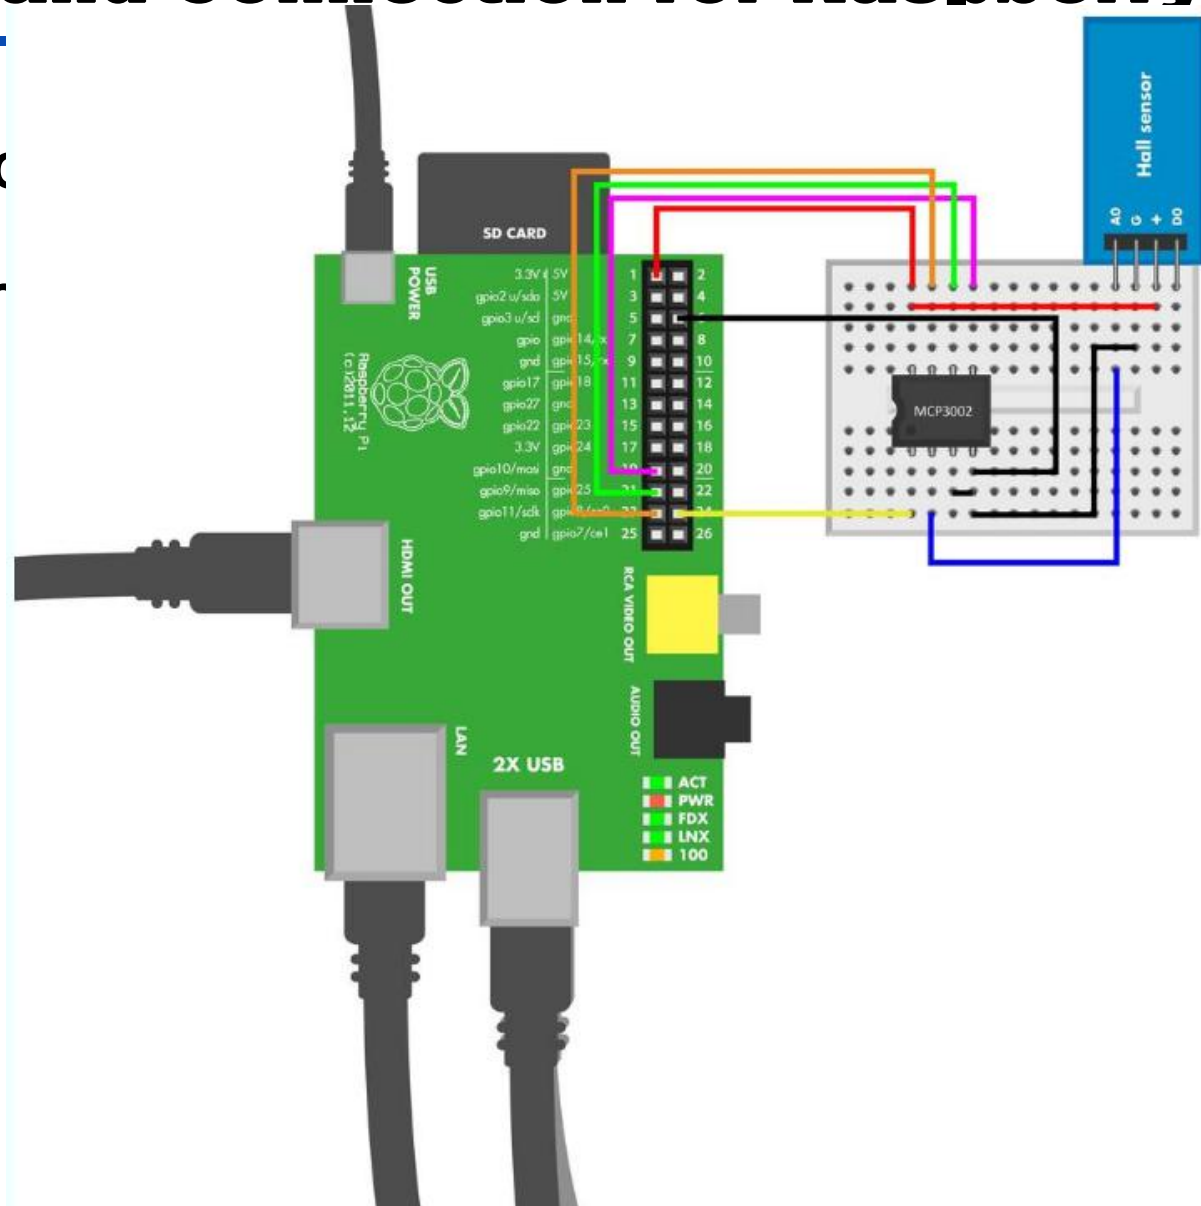

Figure 10-5. Raspberry Pi/Hall effect sensor connections
- Figure 10-5 shows the connections between the two types of hooks.